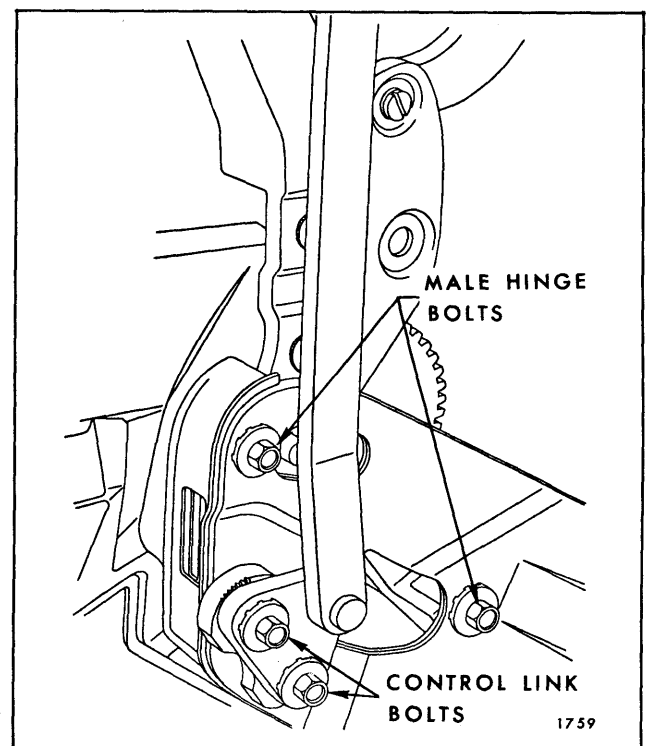

Fig. 13-86—Male Hinge Adjustment
1. To tighten or increase locking action, turn lock hook clockwise (Fig. 13-86).
- a. Loosen two bolts securing control link adjusting plate sufficiently to permit adjustment of plate (Fig. 13-86).
- c. Loosen male hinge assembly and control link attaching bolts (Fig. 13-86).
- b. Loosen male hinge assembly and control link attaching bolts (Fig. 13-86).
2. Male hinge assembly misaligned.	Adjust male hinge assembly rearward (Fig. 13-86).
2. Male hinge assembly misaligned.	Adjust male hinge assembly forward (Fig. 13-86).